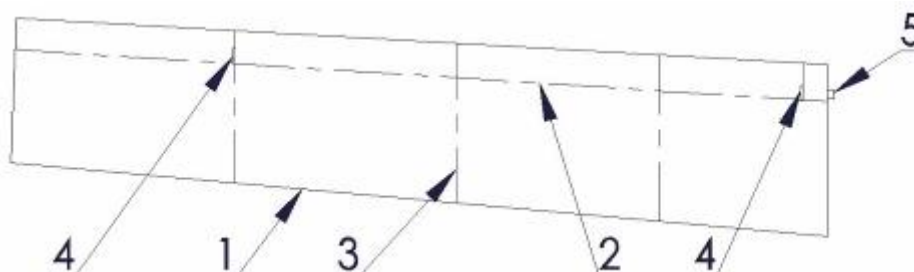

Fig. 4-2
Flaps (Fig. 4-2) are of all-metal structure consisting of the skin (1) aluminum sheet metal, spar (2) and ribs (3) which are connected by means of riveting. Flaps are suspended on the rear spar by means of three hinges (4). There is a control plate (5) on flap root rib where the flap control pin connected.